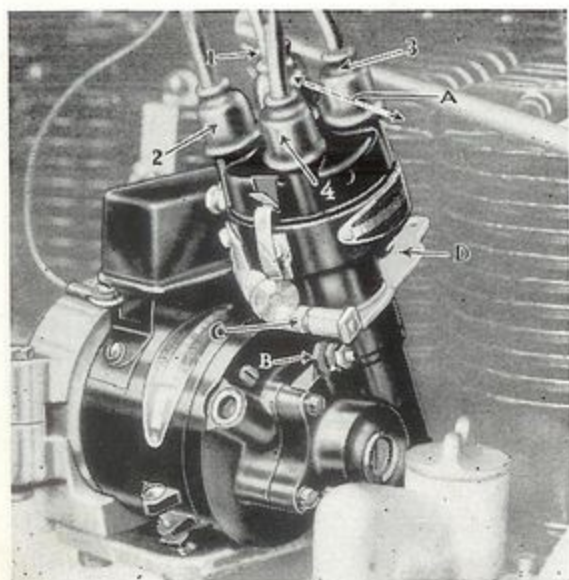

Figure 23
**Model 436 (Distributor Ignition)**—Ignition timing should be set so that the breaker points open when the No. 1 cylinder piston is coming up on the compression stroke and the crankshaft or piston is at top dead center. Be sure breaker point gap is adjusted to .020. The advance arm "D" (Fig. 23) of the distributor must be set in the full retarded position (to the rear) when timing the motor. Top dead center may be determined by inserting a stiff wire or rod through spark plug hole of No. 1 cylinder. No. 1 cylinder refers to the front cylinder. Read 1, 2, 3, 4, front to rear. If the timing gears have been removed, replace according to the marks on the gears.
If the generator distributor unit has been removed, replace as shown in (Fig. 23), connect hose coupling, rotate motor to firing position (full retard No. 1 cylinder). Loosen clamping screw "B" and lift distributor away from generator. Rotate distributor cam shaft until points are just ready to break when the rotor on top of cam shaft is pointing to No. 1 cylinder segment in distributor cap. With advance arm "D" in retarded position, replace distributor unit and tighten clamping screw "B". Final adjustment is made by loosening clamping screw "C" and rotating distributor body until points are just breaking for No. 1 cylinder.
**Connecting the Ignition Wires**—The firing order of the cylinders is 1, 3, 4, 2. On battery ignition models, follow the figures given on the distributor cap in (Fig. 23); that is, the wire leading from No. 1 segment on the cap should go to the spark plug on No. 1 cylinder, the wire leading from No. 3 segment on the cap should go to No. 3 cylinder, etc.